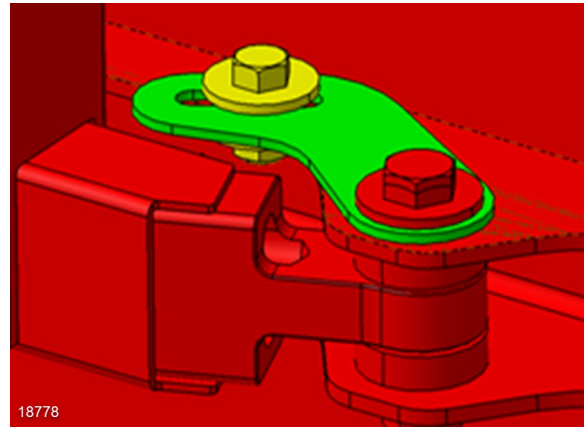

FIGURE 57: LOCKING PLATE
- Check the gap between the door and the adjacent panel at the level of the upper attachment point of the arm on the door. The gap should be 1/4" (6 mm) (FIGURE 57).